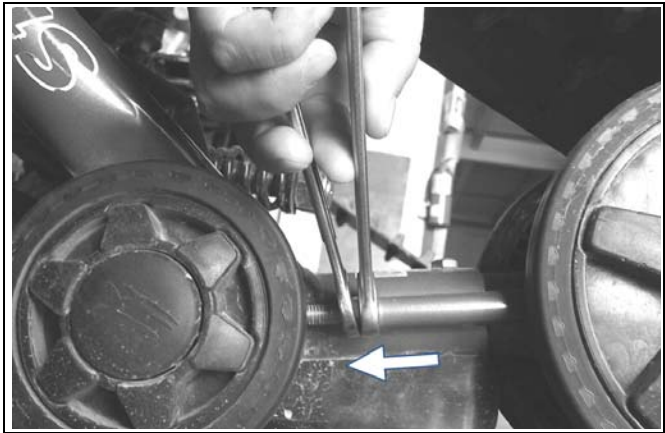

Figure 20
- Set rubber track tension to the minimum (refer to Figure 20).